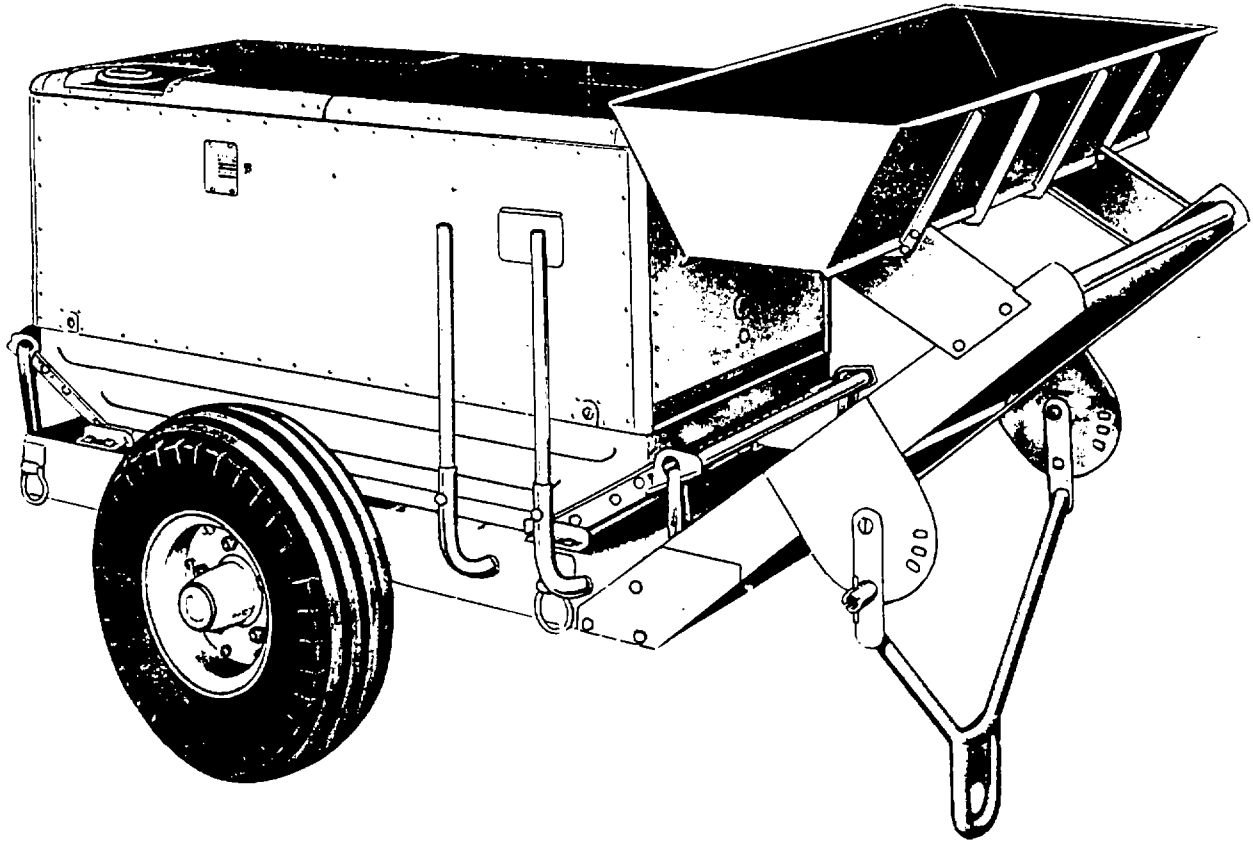

Figure 9-15. Typical Aircraft Preheater
h. Aircraft Preheater. The aircraft preheater, shown in figure 9-15, will deliver 40,000 to 400,000 BTUs/hour within the specified operating condition limits. The preheater will deliver uncontaminated air with a regulated discharge air temperature of 150 to 280°F (66 to 138°C) at an adjustable air delivery rate of 435 to 815 cfm. Flexible ducts are used to direct the heated air where it is needed.